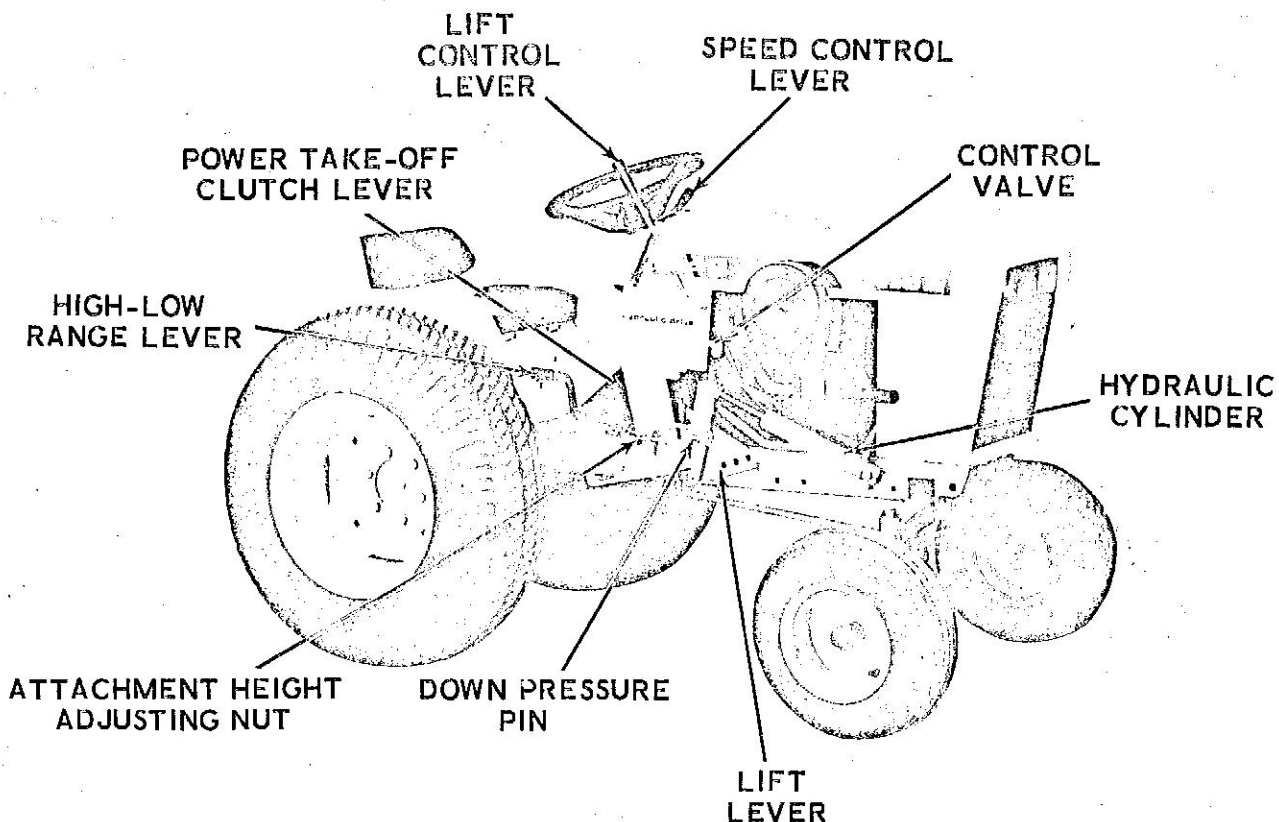

Figure 1. Identification of Principle Components and Controls
1. The principle components and controls of the tractor and hydraulic lift kit are identified in Figure 1 with the same description used throughout this manual.